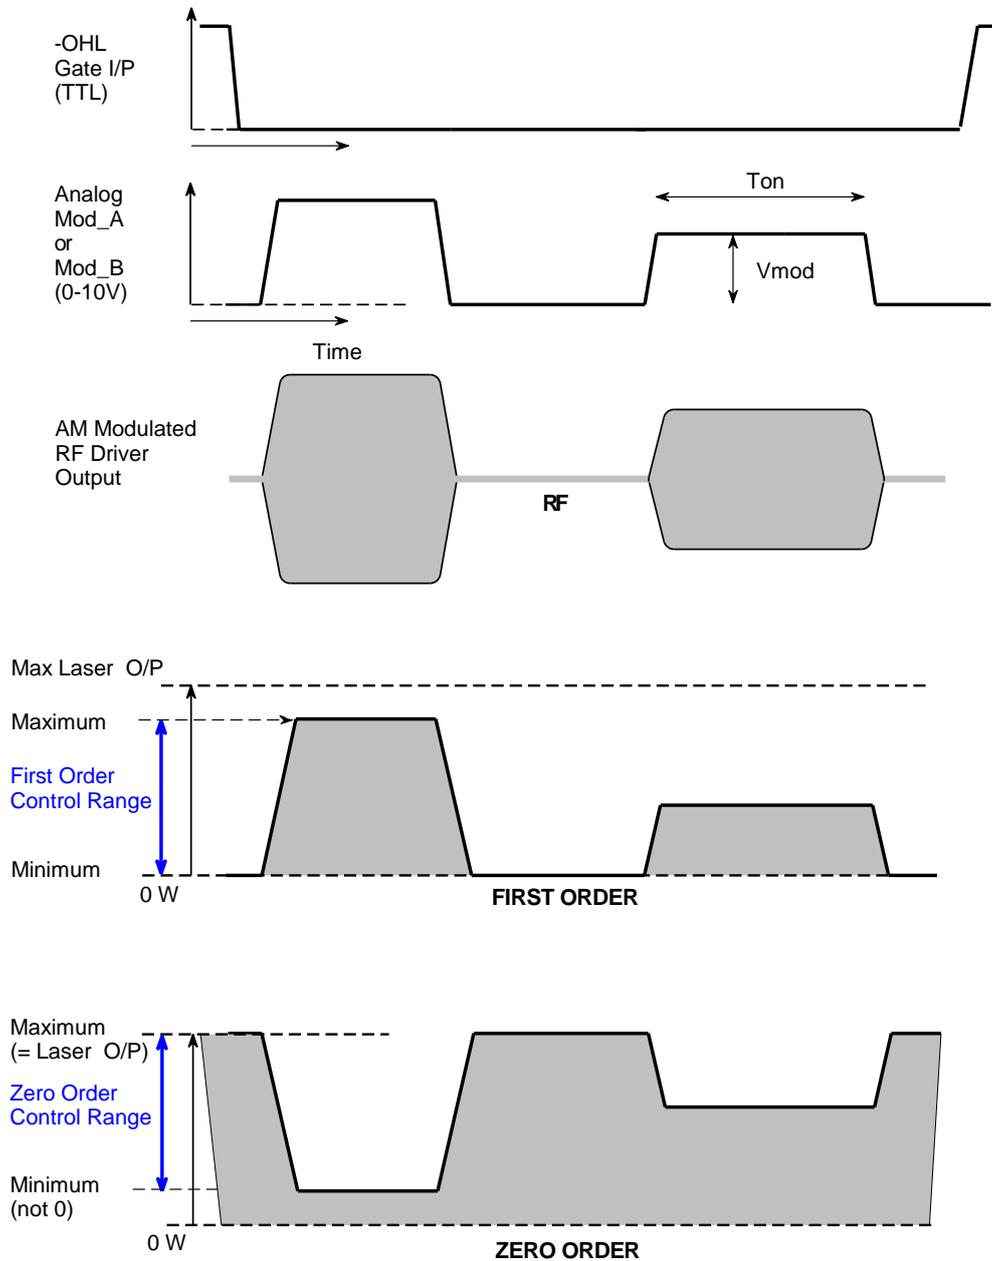

Figure 2: Typical Laser Modulation Waveforms
- 3.1 Connect cooling water to the iSPA2160-4 at a flow greater than 2.0 litres/minute at < 20 deg.C. Refer to Figure 2. Use of a Corrosion inhibitor is strongly advised.